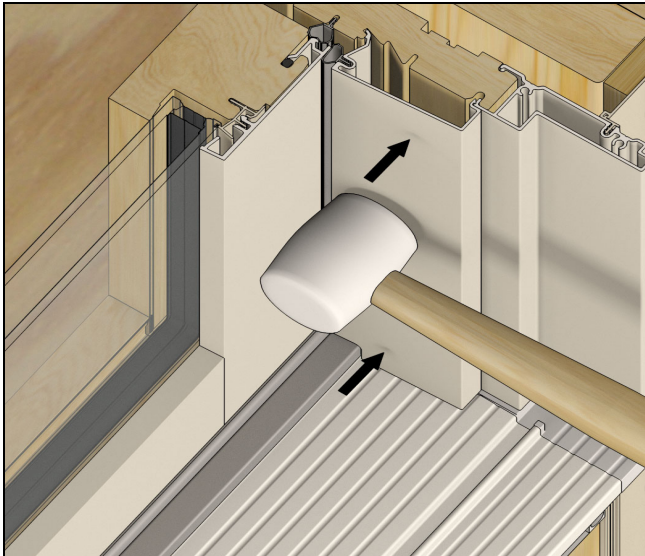

Figure 20
1. To install the stop, rotate engagement feature into the wood jamb kerf. Push the cover the whole way to the header cover. Starting at the top, using a rubber mallet, impact the outer edge of the cover to seat it. Continue working down towards the sill to fully seat it. See Figure 20.